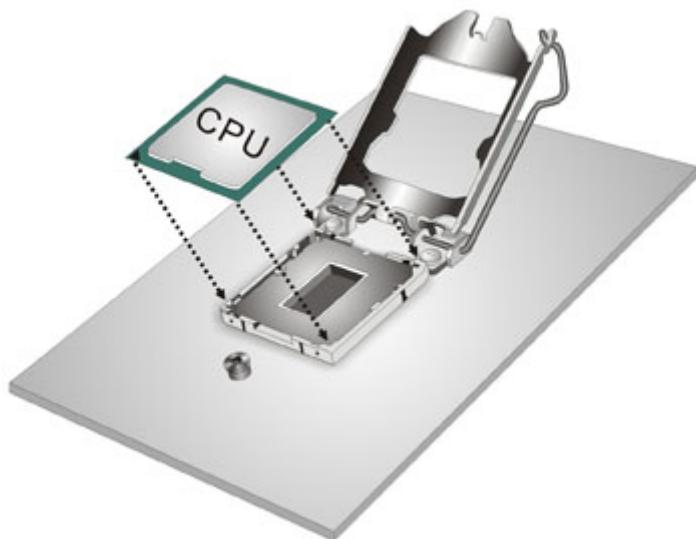

Figure 4-3: Insert the Socket LGA1151 CPU
Step 7: Insert the CPU. Gently insert the CPU into the socket. If the CPU pins are properly aligned, the CPU should slide into the CPU socket smoothly. See **Figure 4-3.**